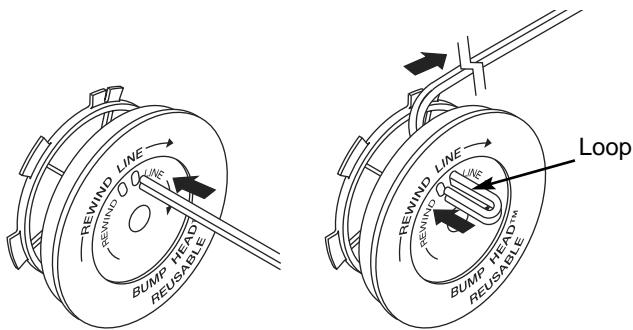

Fig. 20
8. Take approximately 8 feet (2.5 m) of new trimming line. Insert one end of the line through one of the two holes in the inner reel (Fig. 20). Pull the line through the inner reel until only about 4 inches is left out.
9. Insert the end of the line into the open hole in the inner reel and pull the line tight to make the loop as small as possible (Fig. 20).